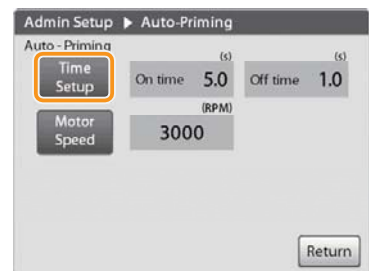

Figure 3-75
2. Tap [Time Setup]. (Figure 3-75)